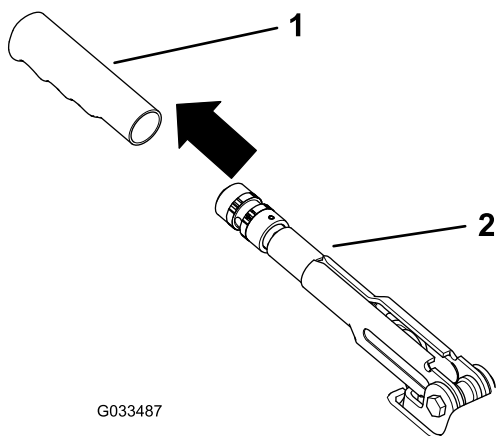

Figure 64
1. Remove the rubber grip from the parking-brake lever (Figure 64).